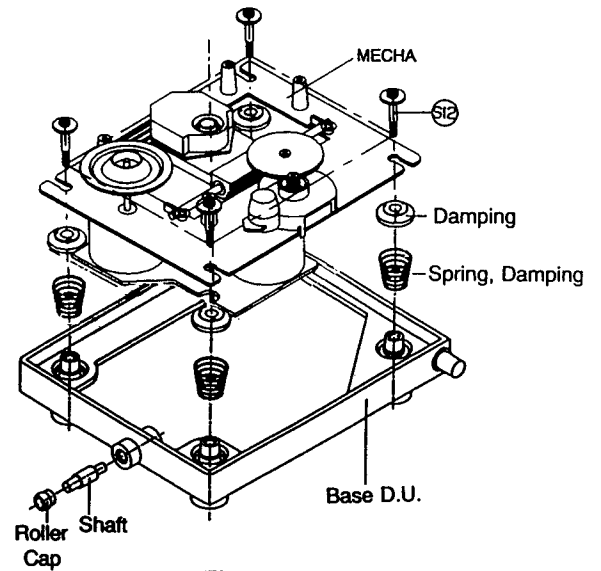

Fig. 8
2. Remove four screws S12 (See Fig. 8).